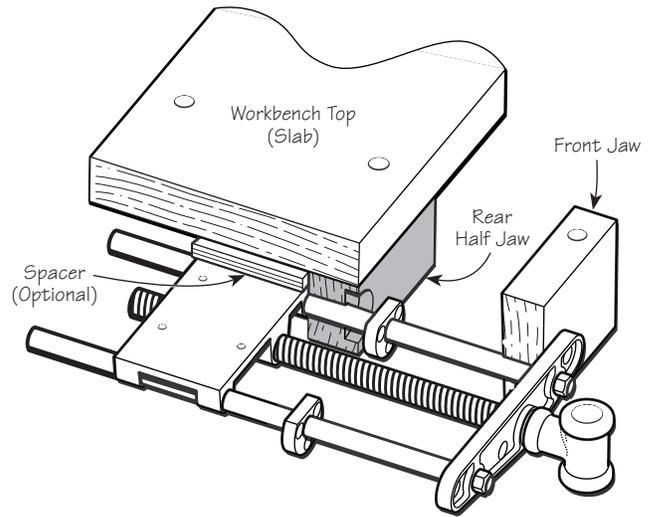
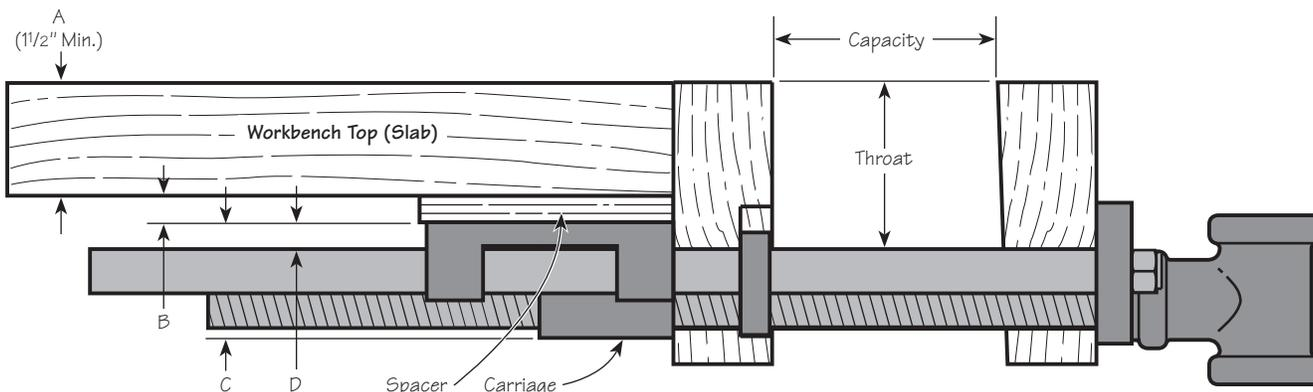
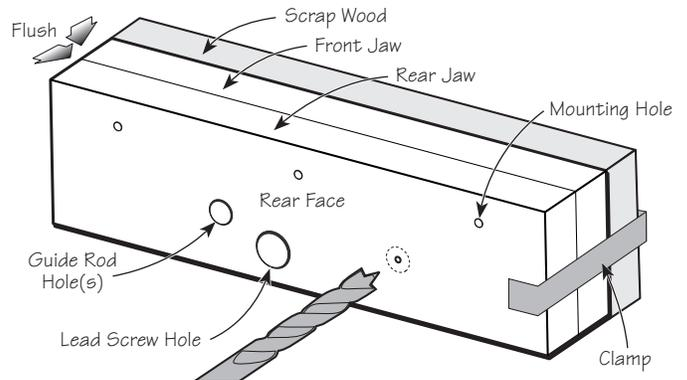

Figure 2: Bench with rear half jaw and no skirt.
Figure 5: Vise capacity and throat.
Figure 8: Clearance holes.
2	Min. 1 5/8" thick close-grained hardwood (e.g., maple, birch) 3 1/4" wide* by 12" to 15" long *One piece may be 1 3/4" min. if configured as shown in Figure 2.
2	Min. 1 5/8" thick close-grained hardwood (e.g., maple, birch) 3 3/4" min. wide* by 18" long (or longer if using as a full-width end vise) *One piece may be 2 1/4" min. if configured as shown in Figure 2.
Figures 2, 3 and 4 show the three most common configurations for mounting the vise to your bench. The choice of which you should use is largely dictated by how your existing bench is made.
3*: This configuration is for a bench that does **not** have a skirt. By making the rear jaw a single continuous piece over its entire height, the possibility of the rear half jaw (in Figure 2) shifting when clamping an object is eliminated. The disadvantage of adding a rear jaw to the edge of the bench is that clamped workpieces will be further from the edge of the work surface. If this is of concern, the rear jaw may be made the full length of the bench, in effect creating a skirt, and widening the bench in the process. The spacer is used to increase throat depth and is optional.
- To determine the minimum jaw height (or composite jaw height if your situation is as per Figure 2) and resultant throat depth without the use of a spacer, refer to Figure 5 and complete Table 1 (in pencil). As with any vise, the closer the work can be clamped to the lead screw, the less stress is placed on all its parts. However, the vise is strong enough to withstand a deeper throat. If you wish to increase the throat depth, a spacer may be added between the carriage and underside of your bench top. This will increase your throat depth accordingly. An optimum throat depth is 3" to 4". Adjust your entries until you are satisfied with the throat depth and jaw height.
Note: If your jaw configuration matches that of Figure 2, your rear half jaw height will be equal to the calculated jaw height less your bench top thickness.
- Mark a vertical center line on what will become the clamping face of the **rear** jaw. Place the template on the clamping face of the rear jaw, with the fold flush to the top edge and the center line on the template lining up with the center line of your jaw. Using a sharp punch, mark the centers of the three holes. (*Note: If your jaw configuration matches that of Figure 2, you will have to temporarily affix the rear half jaw to the underside of the bench before performing this operation.*) Also mark the centers for any hardware you intend to use to mount the jaw to the bench.
- Clamp the front and rear jaws together, aligned as they will be once they are fully assembled, as shown in **Figure 8**. Ensure that what will be the top and ends are flush. *Note: If your jaw configuration matches that of Figure 2, the rear half jaw will have to be offset from the top of the front jaw accordingly.* Place the jaws in a drill press and, picking up on the 1/8" pilot holes from the **rear face** of the **rear** jaw, bore the guide rod and the lead screw clearance holes through both pieces. **Table 2** shows the clearance hole diameters. These diameters have been rounded off to the nearest 1/8" oversize. To reduce tear-out, support the underside of the front jaw with a piece of scrap wood.
- Attach the rear jaw to the bench using large (#14) screws or 1/4" lag screws, additionally gluing if desired. Leave a 1/16" planing allowance by keeping it slightly proud of the top of the bench. (*Note: If your jaw configuration matches that of **Figure 2**, ensure that the clamping face of the half jaw is flush with the front edge of your bench.*)
- Tap the **front** jaw so that the ends and top edge are flush with the rear jaw (or bench top if your jaw configuration matches that of **Figure 2**). Firmly tighten the vise. Check that the carriage is in contact with the **rear** jaw.